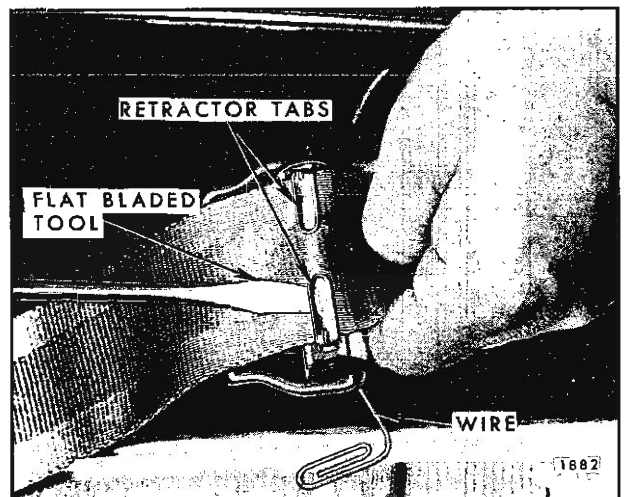

Fig. 15-98—Removal of Bail Type Retractor From Seat Belt
2. Insert a piece of stiff wire such as a paper clip in slot in roller drum to maintain spring tension of retractor (See Fig. 15-98).
3. Using a flat-bladed tool pry open tabs that secure belt webbing on drum and remove retractor from belt (See Fig. 15-98).